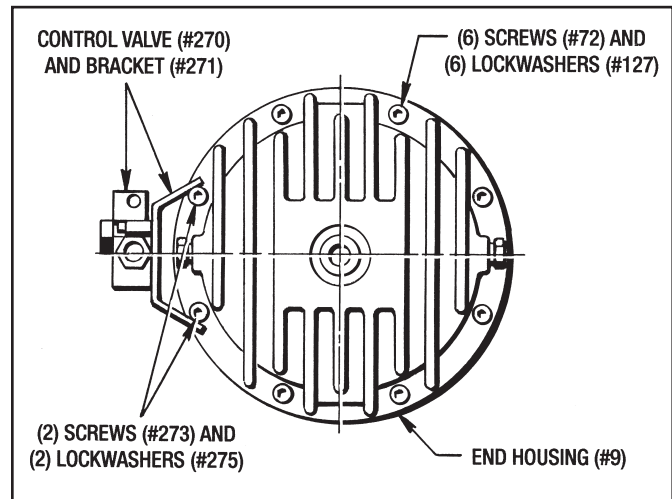

Figure 9.8 - Attaching End Housing (#9)
3. Attach the End Housing with (6) Screws (#72) and (6) Lockwashers (#127). **Torque to 25 Ft. Lbs.**
**NOTE:** Leave the (2) mounting holes empty where the Mounting Bracket (#271) attaches to. (See Figure 9.8)